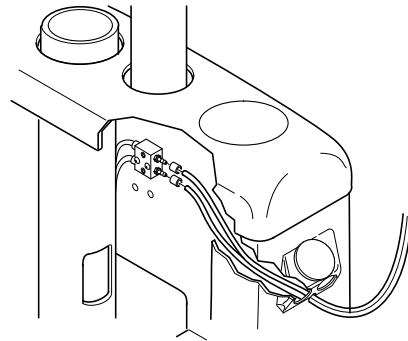

Figure 9: Connecting the Quick Clean Syringe
3. Quick Clean Syringe: (Refer to Figure 9)